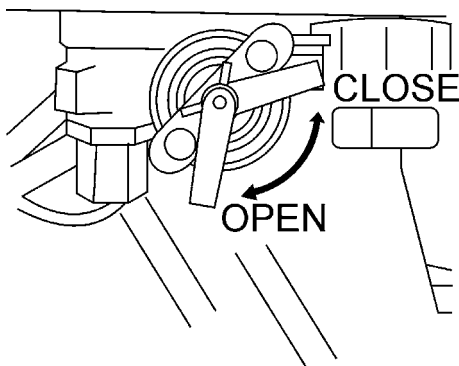

Figure 22. Fuel Cock (Closed Position)
5. Place the fuel cock (Figure 22) in the closed position.